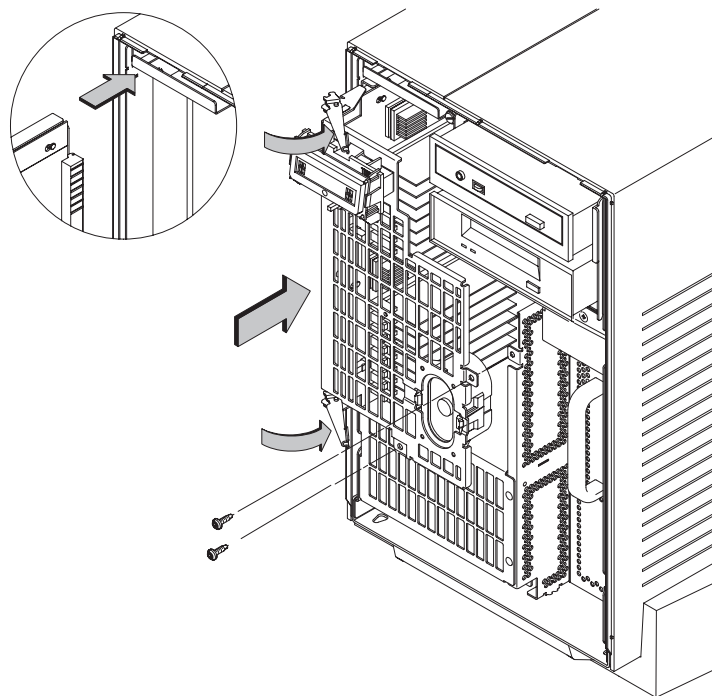

Figure B-30. Replacing the CPU Assembly
- 13.** To replace the CPU Assembly in the system unit, first align the top of the CPU Assembly with the guide on the system unit. Refer to Figure B-30 and to the label on the back of the assembly. Be sure to support the CPU Assembly properly while replacing it.
Next, align the bottom of the CPU Assembly with the guide on the system unit. With the ejector latches in the open position, slide the CPU Assembly into the system unit as far as it will go. See Figure B-30.